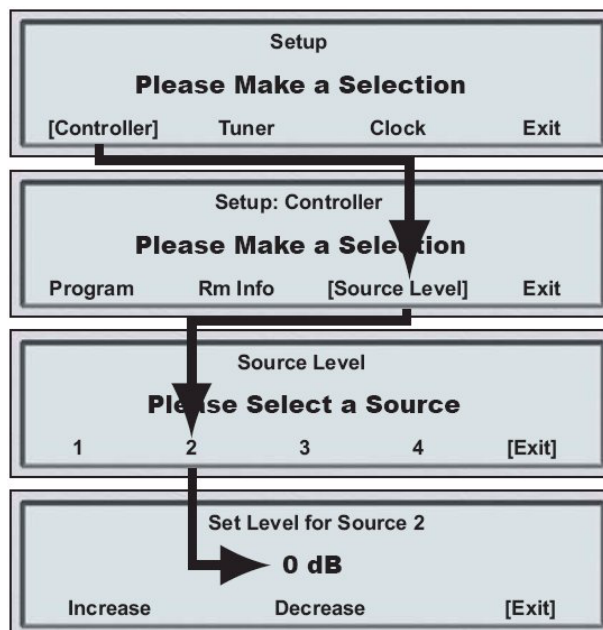

FIG. 41 Setting Source Levels
2. Using the navigation button, select “**Source Level**” and the “*Source Level*” screen will be displayed. Choose between Source numbers 1-4. (The example in FIG. 41 shows Source #2 because Source #1 defaults to the on-board AM/FM Tuner if it is installed).